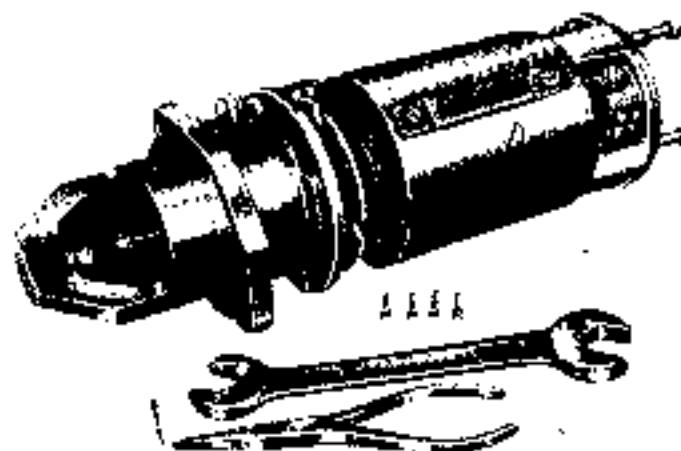

Fig. 88
10. Having screwed out the four bolts securing the yoke to the commutator end plate, remove the end plate from the shaft (see Fig. 88). On no account is it to be started with the insulation sleeve installed on the commutator shaft at the end. Omission of this precaution might cause a short circuit.
- Holding centered out the lever only from the insulation cast the latter (see Figs. 88, 89).